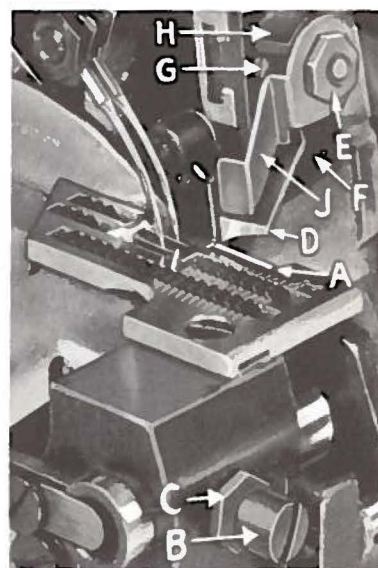

Fig. 13
Replace lower knife holder assembly. Lower knife (A, Fig. 13) should be set with cutting edge flush with throat plate surface. Adjustments are made with hexagonal head screw which holds lower knife. Lower knife is spring pressed against upper knife, so no lateral adjustment is necessary when width of trim is changed.
Replace upper knife assembly. Clamp upper knife (D, Fig. 13) in position, setting nut (E) to hold clamp (F) in its most clockwise position against upper knife. Upper knife chain guard (J) should be positioned so that the guarding section is approximately  $\frac{1}{64}$  inch behind the cutting edge and in contact with the top surface of the upper knife.